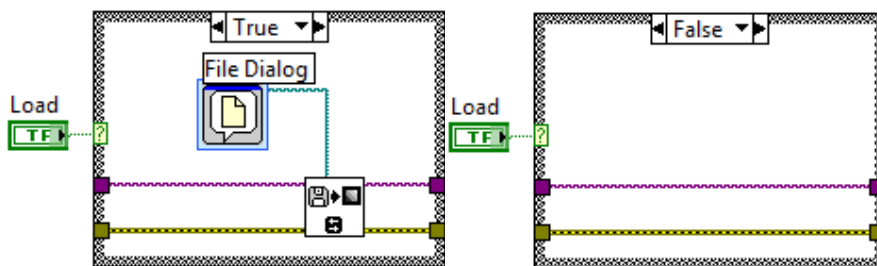

Figure 22: Left: "True" Case Block Diagram. Right: "False" Case Block Diagram
5. Add a **Case Structure** and wire the **Load Image Button** to the **Selector Node**. Build the rest as shown in Figure 22. Refer to previous exercise if you do not remember the location of the palettes.